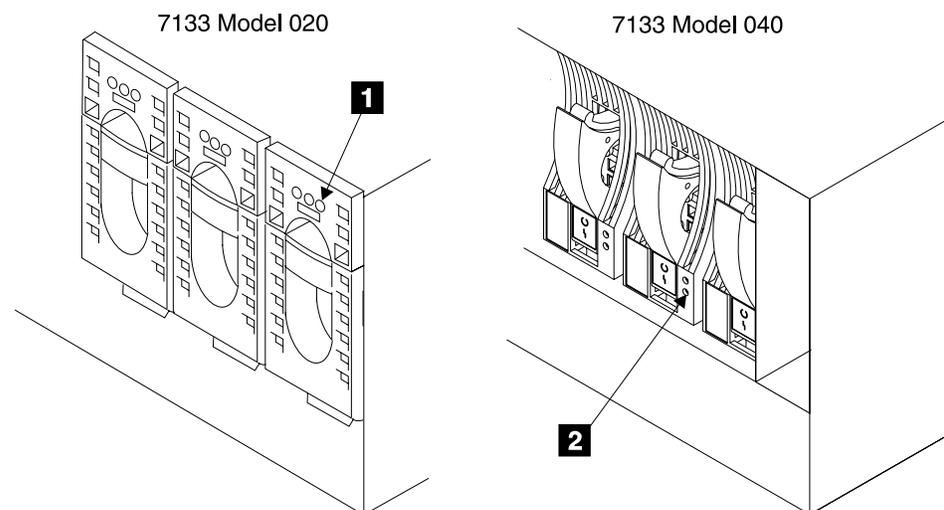

Figure 28. Disk Drive Module Check Indicator (S007707m)
- Disk drive module (Rx-Yxx-Dxx), **1** or **2** in Figure 28,